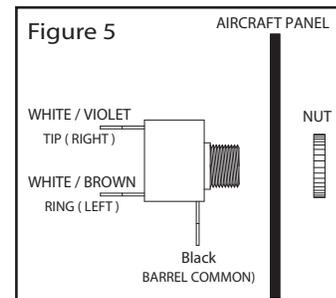
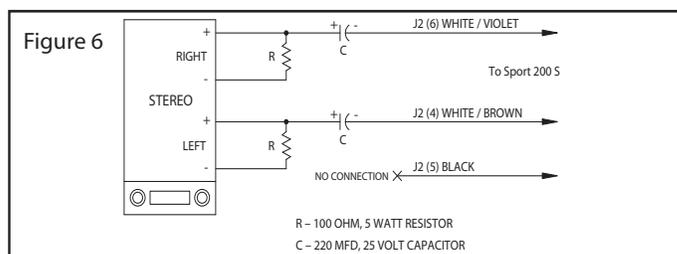

Figure 5
Figure 6
4. The Sport 200 S system provides a stereo music input. This music input accepts portable music Headphone or Line level music sources. The wiring diagram shows how to wire the Sport 200 S for use with a portable stereo music source. A small stereo input jack is supplied for this purpose. Connect the White/Brown, White/Violet, and Black wires to one jack as shown in Figure 5. Drill a 1/4-inch hole for the jack and mount on the aircraft panel. To use, connect an adapter cable between the music input jack and the output of the portable stereo. Suitable cables are available at your local Stereo or electronics store as well as from Sigtronics. Speaker level output car stereo music sources can also be used with the Sport 200 S system. A Floating Ground Adapter or a four wire to three wire converter will have to be used between the Stereo and the Sport 200 S music input. Figure 6 shows such an adapter and how it is wired into the Sport 200 S.